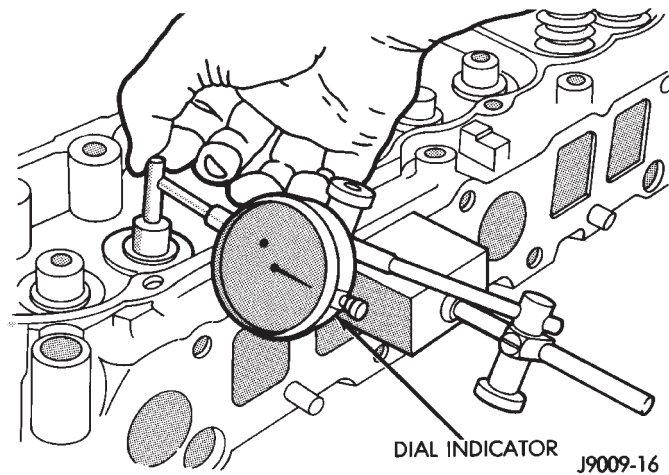

Fig. 64 Measurement of Lateral Movement of Valve Stem
(1) Use a dial indicator to measure the lateral movement of the valve stem (stem-to-guide clearance). This must be done with the valve installed in its guide and just off the valve seat (Fig. 64).
(2) Correct clearance is 0.025-0.0762 mm (0.001-0.003 inch). If indicated movement exceeds the specification ream the valve guide to accommodate an oversize valve stem.